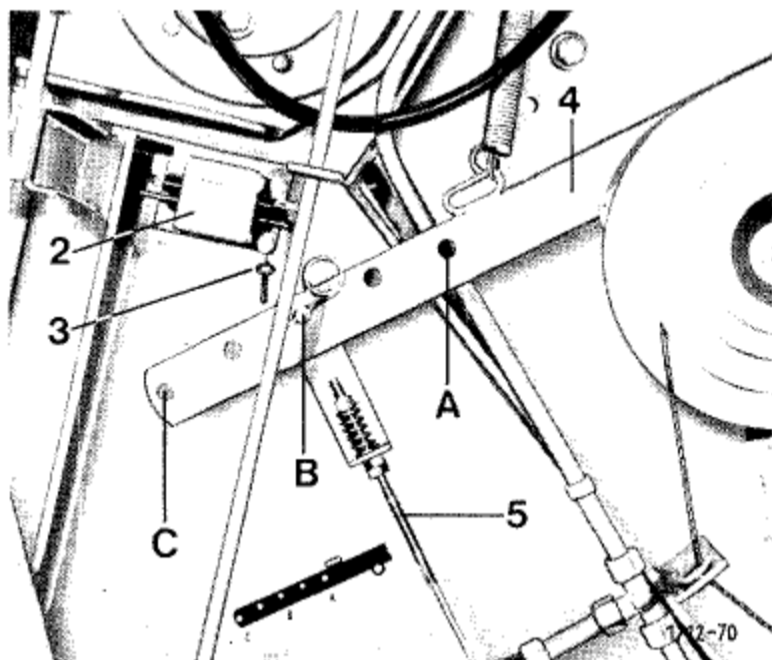

Рис. 12
◇To keep a correct count of ejected bales, the bale counter 2 must be set to "zero" with key 3 before operation (fig. 12).
>The required bale density can be pre-selected and set with adjusting lever 4 (fig. 12). Connecting tension rope 5 into hole A results in low density, position B is for medium density and position C for high density.
>Pick-up spider wheels of reinforced solid rubber offered as optional equipment gather material from bigger windrows and lead it to the pick-up. На рис. 12 а показаны паукообразные колеса, подходящие установленные на RP 12.
Рис. 12 а